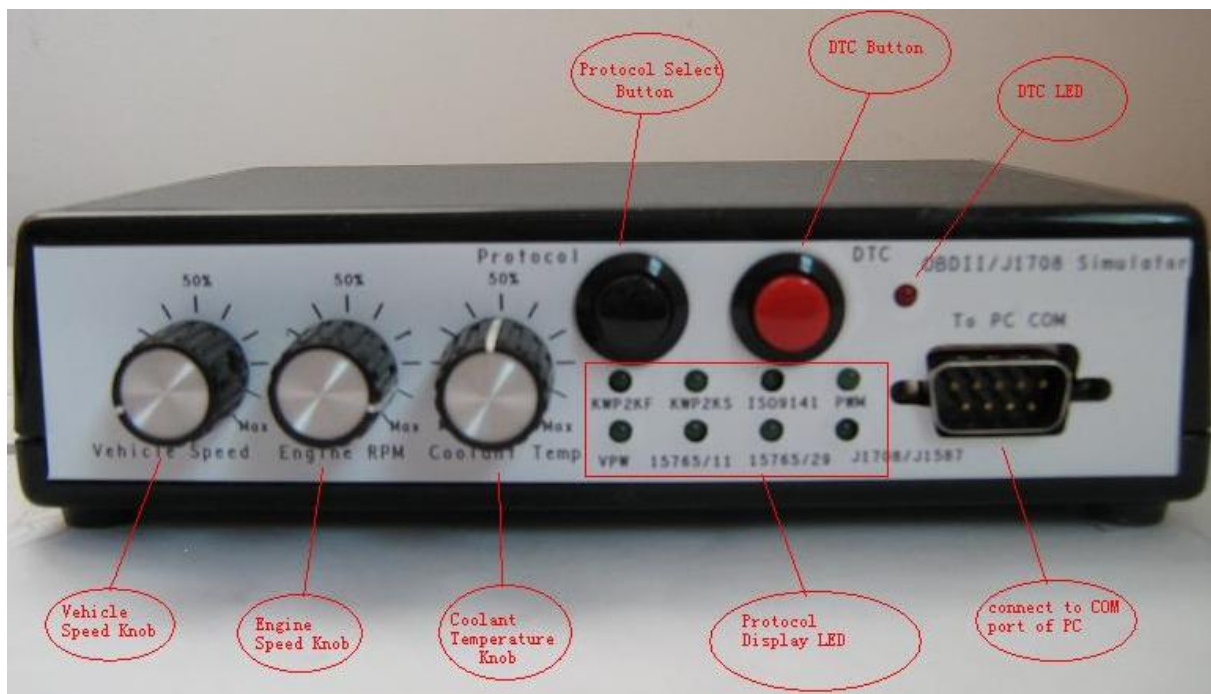

Fig. 3 Front panel of Simulator
Step2: See Fig. 3. Connect DB9 of front panel to PC's COM port using DB9 cross-over (pin2 and pin3) female to female serial cable. Open the hyper-terminal in PC, and set up the COM port as 57600 baud rate, 8 bits of data, 1 stop bit, no parity bit, no flow control.